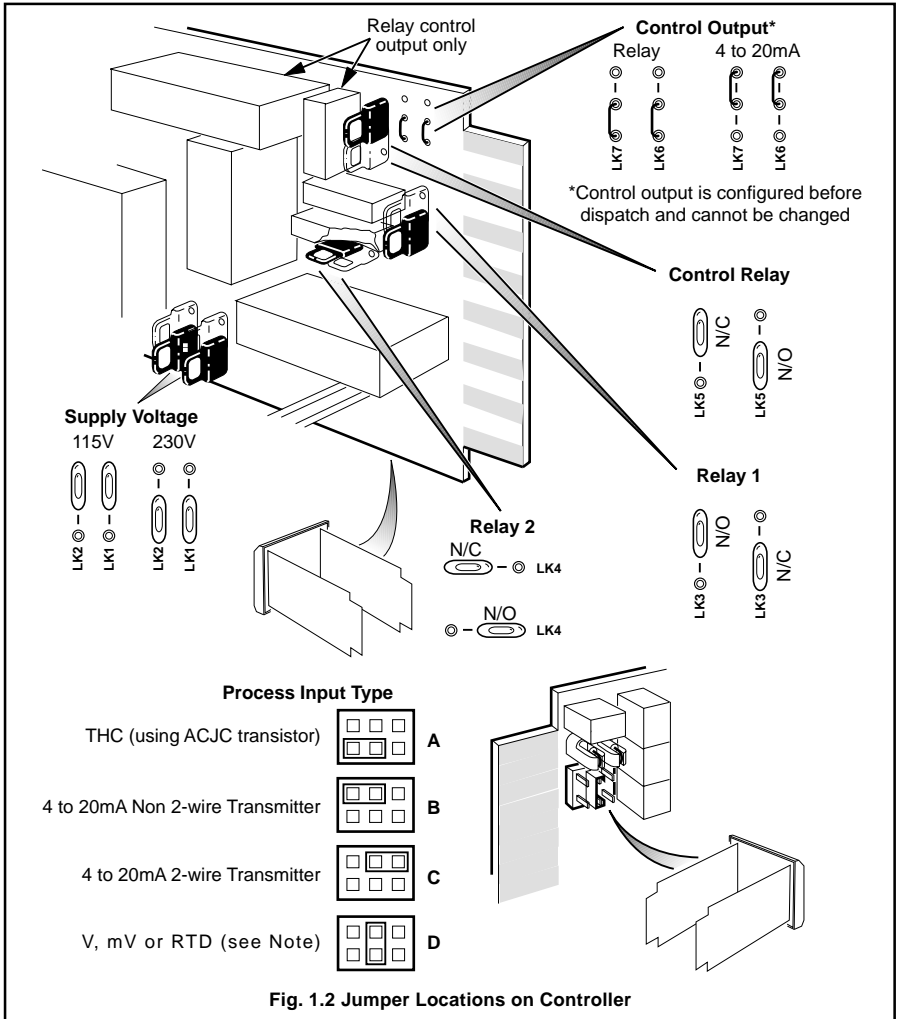

Fig. 1.2 Jumper Locations on Controller
## 1.3 Shipped Configuration – Fig. 1.2
A configuration label on the side of the instrument identifies the as-shipped configuration of the controller. The jumpers associated with primary power, process input, relays, and RS485 communication (if used) may be correct in their as-shipped position. If changes in the jumper positions are required, remove the instrument from its housing, and change the jumper positions from the rear as shown in Fig. 1.2.
2. Ensure that the input type jumper is positioned as shown in Fig. 1.2, diagram A.
3. If a thermistor is connected across terminals 1 and 2, ensure the input type jumper is positioned as shown in Fig. 1.2, diagram D.